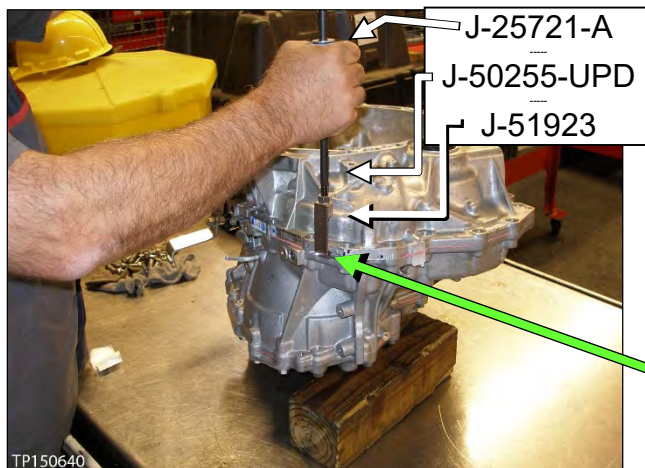
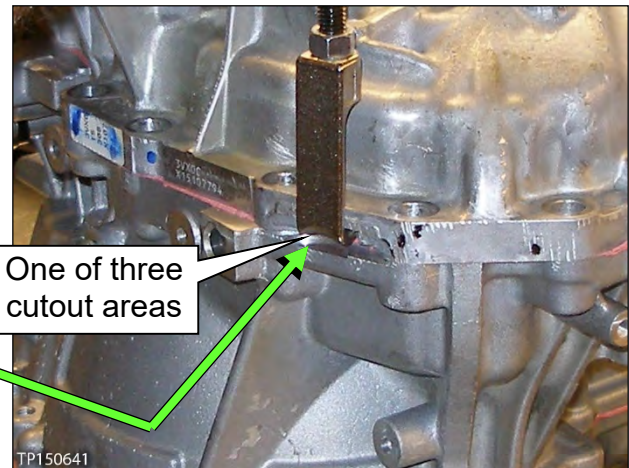

Figure 30
Figure 31
- Use Slide Hammer J-25721-A and Slide Hammer Bolt J-50255-UPD with J-Hook J-51923 at the cut-out areas similar to the one shown in Figure 30 and Figure 31.